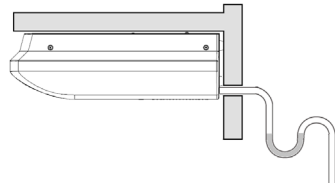

fig. 13
- Avoid rises or ridges in the drain pipe (fig.13).